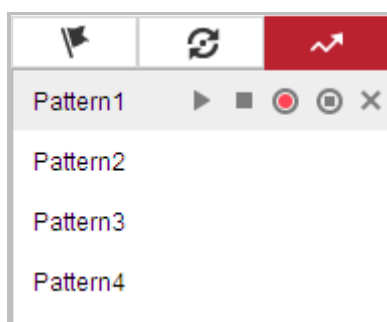

Figure 4-12 Patterns Settings Interface
2. Select a pattern number from the list as shown in Figure 4-12.